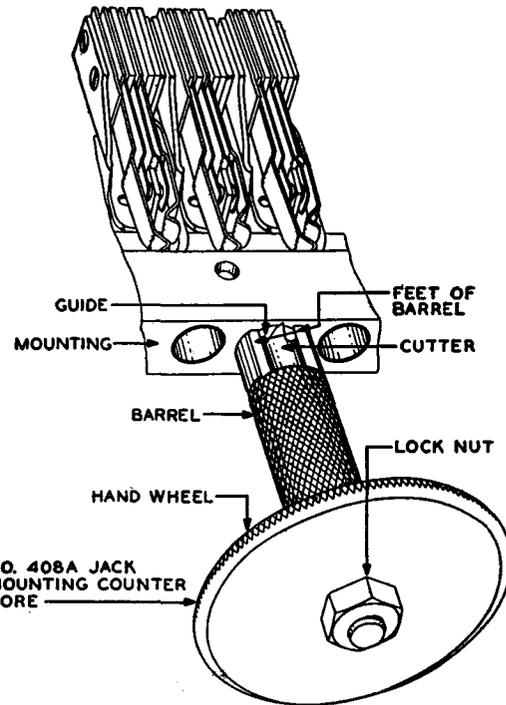

Fig. 5—Method of Counterboring Mounting with No. 408A Jack Mounting Counterbore
3.11 Insert the guide of the counterbore into the jack aperture and position the feet of the knurled barrel against the face of the mounting as shown in Fig. 5. Counterbore by turning the handwheel slowly in a clockwise direction until the wheel bears against the knurled barrel. Carefully remove any shavings that may be lying in the jack aperture.